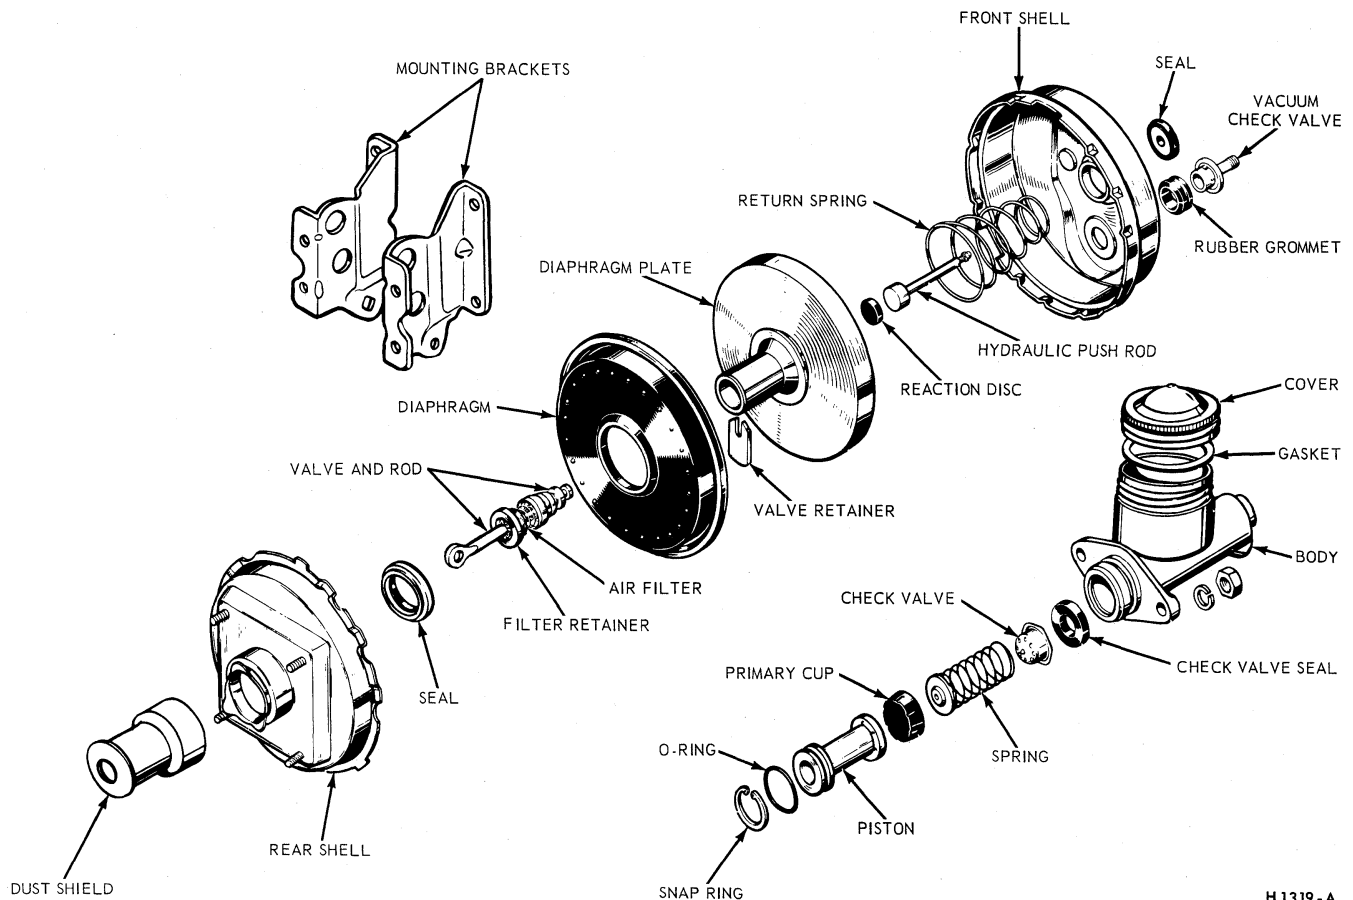

FIG. 15—Bendix Dash-Mounted Booster Disassembled
1. Remove the retaining nuts and lock washers and remove the mounting brackets from the rear shell (Fig. 15).